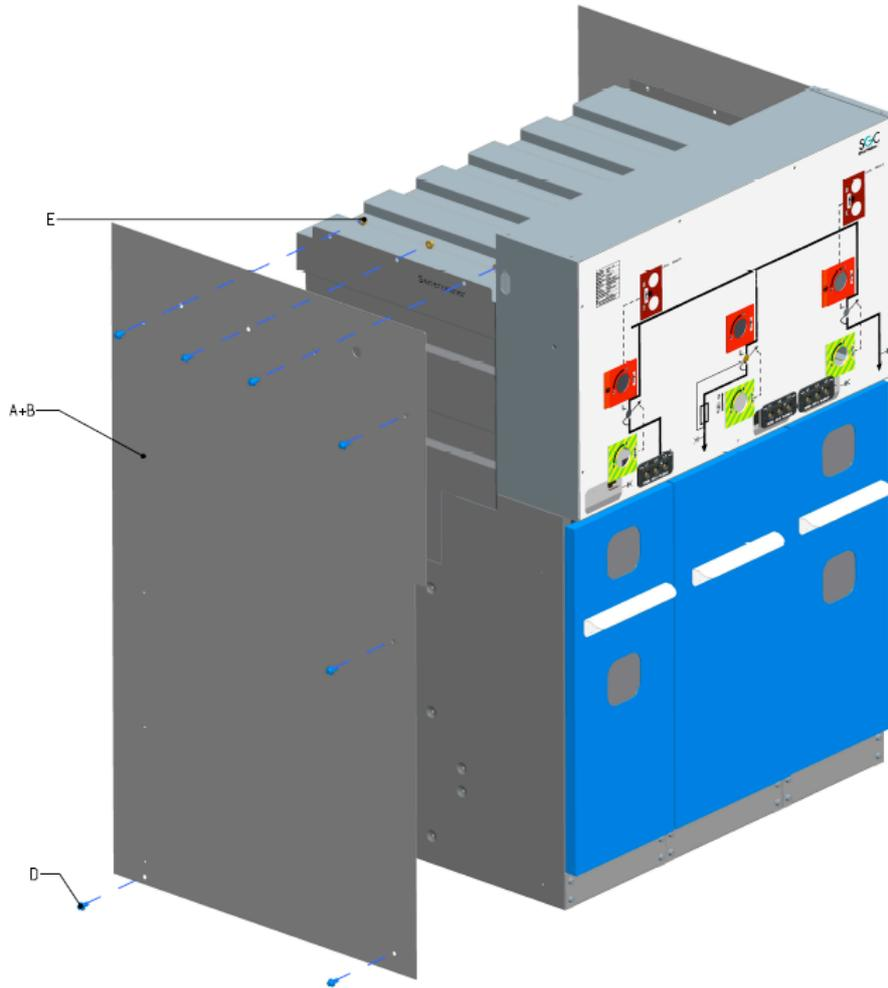

Figure 18: Assembly End Panel
- Anchor each functional unit to the floor using two bolts (A). Use the provided openings as seen in Figure 18. If required, the anchoring can happen after disassembling the floor panels (B) and the front panel of the cable compartment (C).